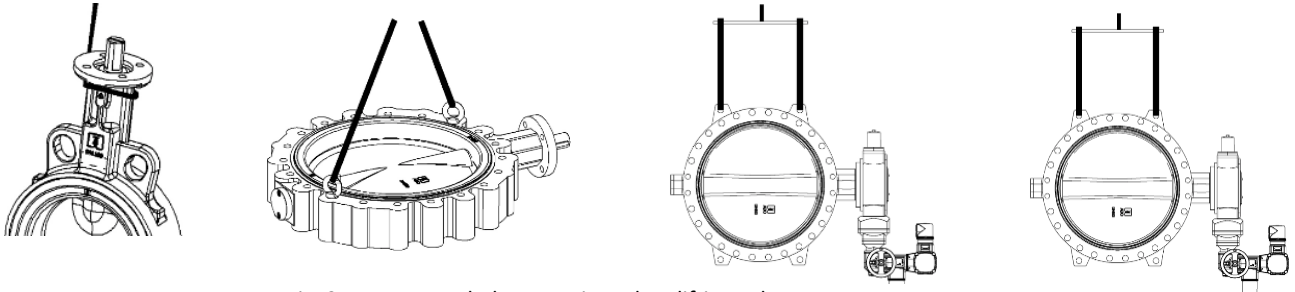

Fig. 2: Recommended suspension when lifting valves
- When handling larger valves with a crane, they must be lifted only by the body or lifting eyes, never by the actuator or lever (Fig. 2).